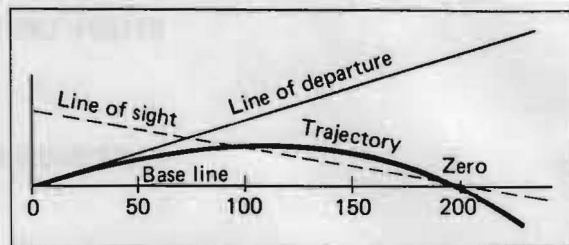

FIGURE 4 — Line of sight, line of departure, and trajectory are the three factors that must be taken into consideration in any sighting-in procedure.
Point blank range, on the other hand, is that point at which the bullet first crosses the line of sight, soon after leaving the muzzle. By studying Figure 4, you will see the relationship between line of sight, line of departure, and trajectory, and these concepts will become clear for you.
But remember that all bullets, irrespective of their initial velocity, start dropping the instant they leave the support of the barrel, and a rifle's sighting equipment must compensate for this bullet fall-off. So, the three factors taken into consideration in any sighting-in procedure are: (1) the shooter's line of sight, (2) the trajectory of the bullet, and (3) the line of departure or angle of the barrel (see Figure 4).